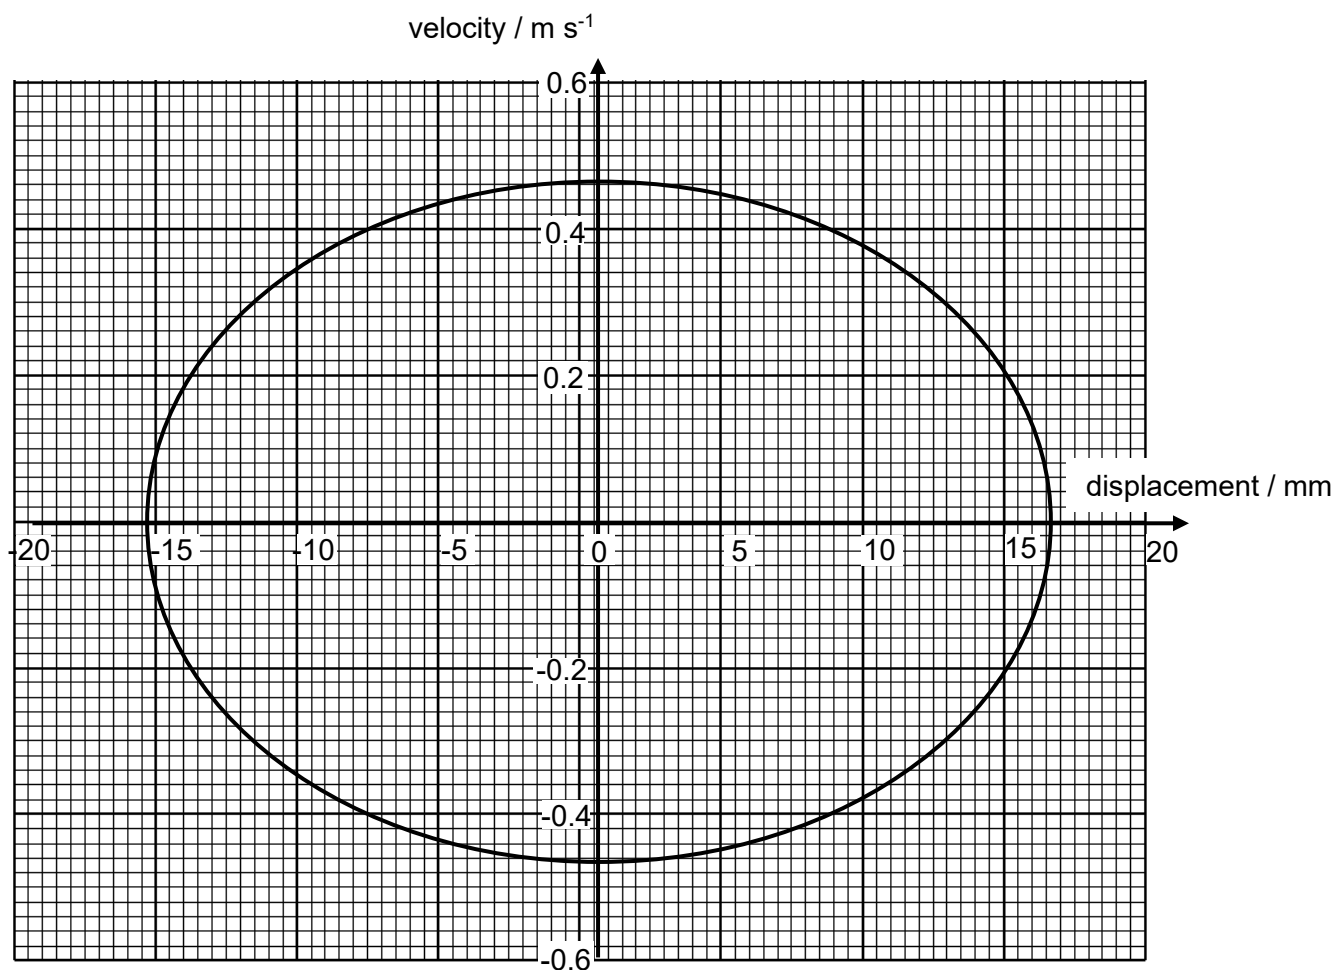

Fig. 4.2
Before switching on the variable-frequency oscillator, the metal cube was displaced by pulling it downwards and made to oscillate freely. A graph of its velocity against displacement is shown in Fig. 4.2.
- (a)** Using Fig. 4.2, show that the natural frequency of the metal cube is 4.6 Hz.